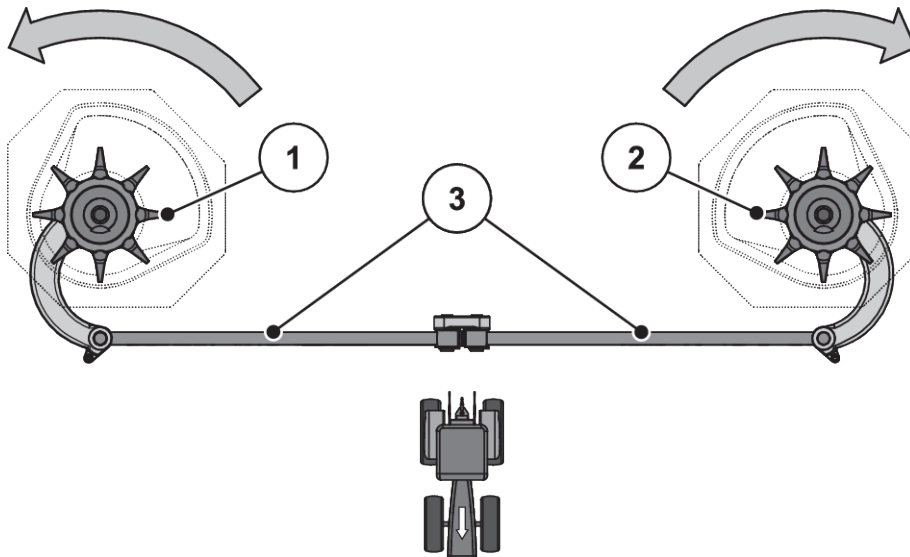

Fig. 81: Checking the agitator drive
► Manually turn the agitator head **into the rotational direction of the spreading disc**. See Fig. 81 Checking the agitator drive.
► Turn the agitator head manually or with the help of an oil filter belt forcefully **against the rotational direction of the spreading disc**. See Fig. 81 Checking the agitator drive